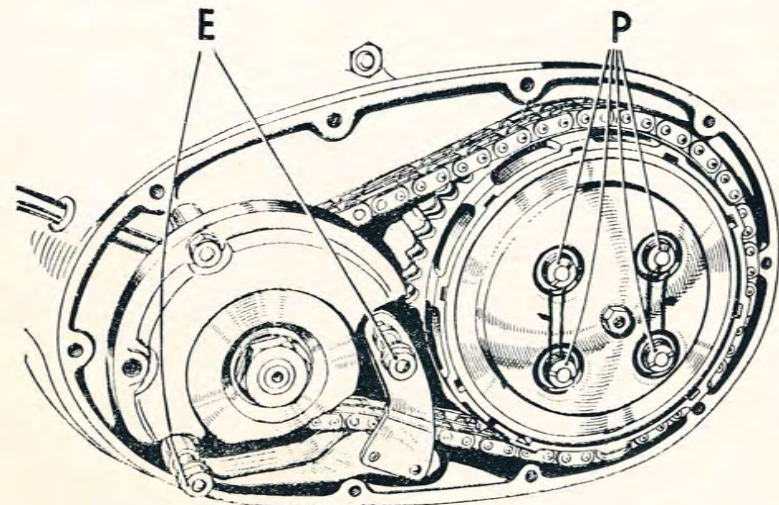

Fig. 16. The primary chain and clutch.
When the two lower generator retaining nuts (E) Fig. 16 are slackened, the position of the slipper can be altered to give the correct tension.
Whenever the clutch has been dismantled, the spring pressure must be reset carefully. The four retaining nuts (P) Fig. 16, should be screwed in until the underside of the head of each nut is approximately $\frac{1}{16}$ " from the face of a spring cup. The figure is an arbitrary one and it is a simple matter to vary it according to circumstances. If the springs are compressed excessively, the handlebar lever will be stiff to operate and tiring to the hand; alternatively, if the spring pressure is insufficient, the clutch will tend to slip.